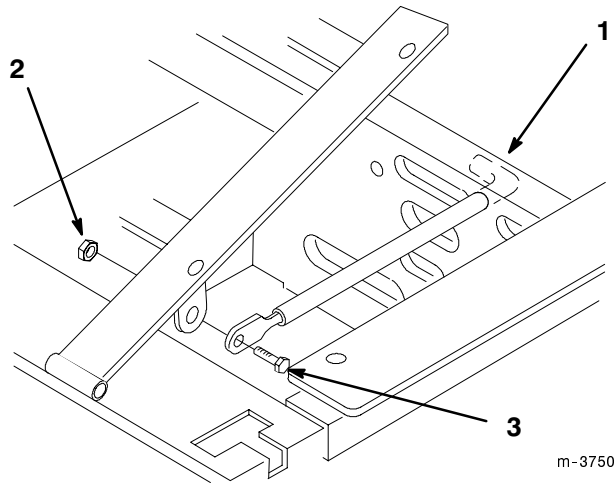

Figure 3
1. Tilt seat up. Remove 5/16 in. (8mm) locknut from bolt attaching seat retaining rod to seat frame (Fig. 3).
2. Remove retaining rod from seat and insert the "L" shaped end of the rod into the hole directly above the left-side hydraulic pump (Fig. 3).
3. Place the seat retaining rod to the outside of the mounting tab of the seat frame and secure with one bolt (5/16 x 1 in. (26 mm)) and locknut (5/16 in. (8mm)) (Fig. 3).